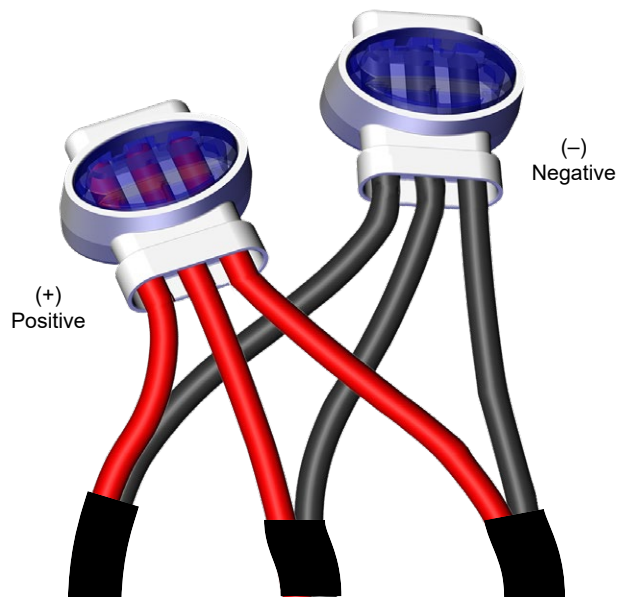

Figure 6. Typical connection including a pass through pair of conductors.
4. Repeat for negative (black) conductors. (Figure 6)